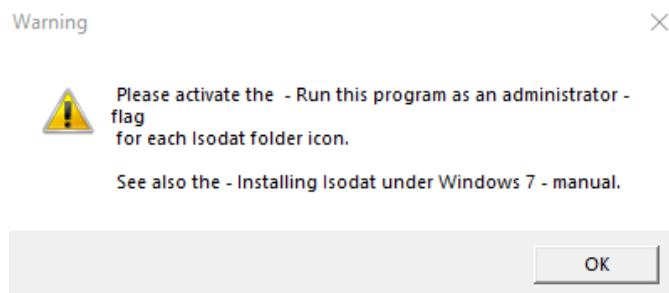

Figure 3-9. Isodat installation - Destination Location
12. You are reminded to assign administrator rights to all Isodat applications after this installation is finished, see Figure 3-9. Click **OK**.